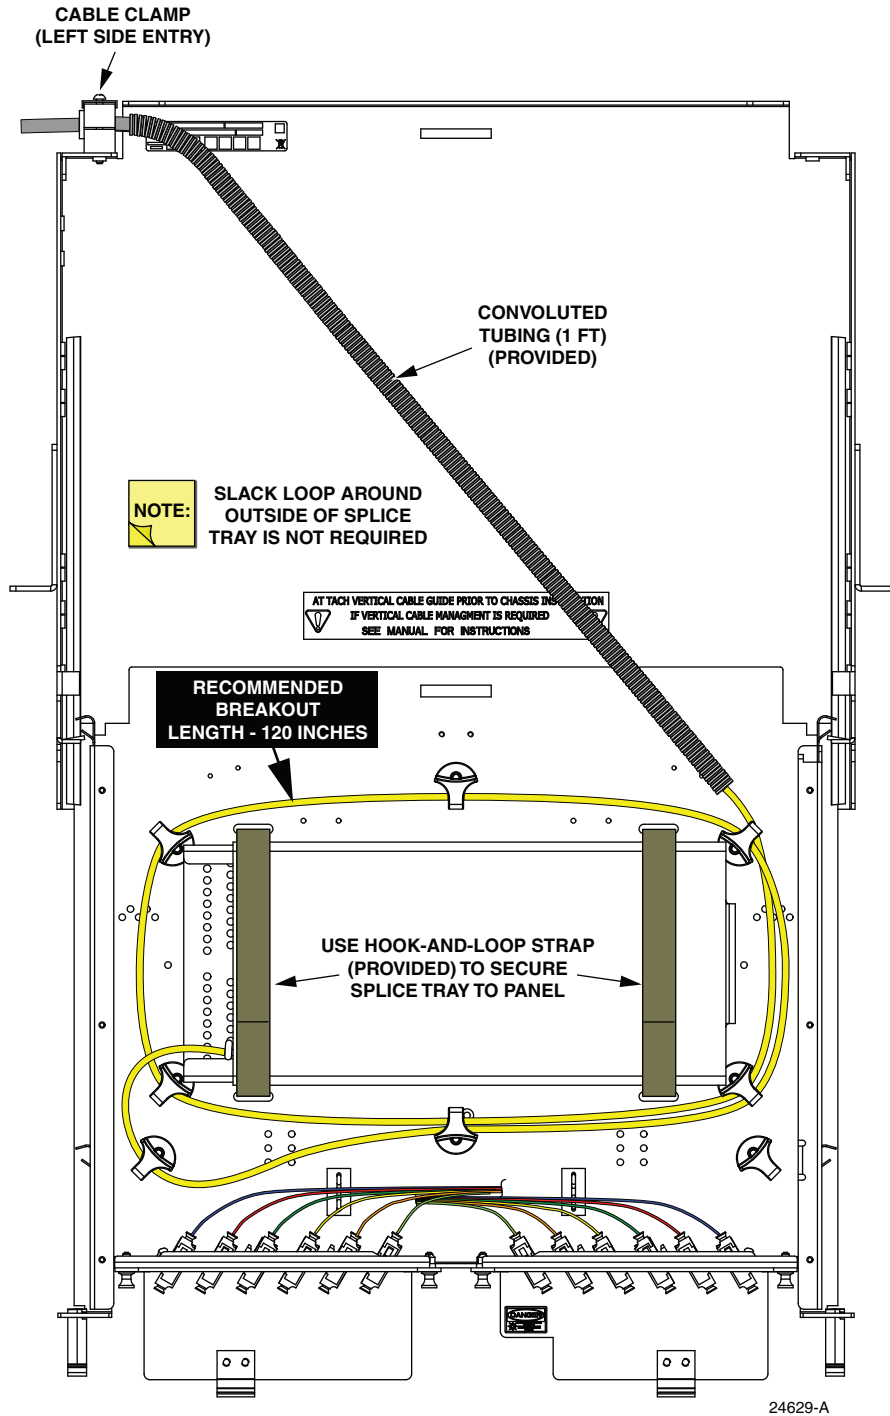

Figure 20. Routing OSP Cable, Left Side Entry
For left side cable entry, route the OSP cable from the cable clamp position to the splice tray as shown in Figure 20. “Left” is defined from the front of the panel.
► **Note:** For location of the hook-and-loop strap, refer to Figure 20 on the previous page.